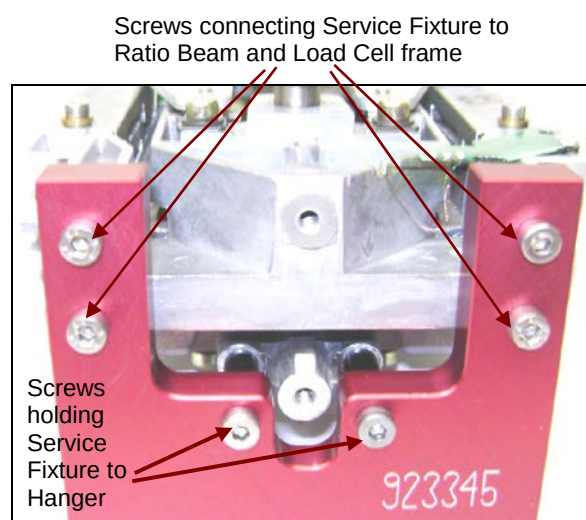

Figure 3-65. Service Fixture for 3 decimal Precision Load Cell, attached to Hanger, Ratio Beam, and Load Cell frame.
15. Remove the Service Fixture. (See Figures 3-65 and 3-66.)